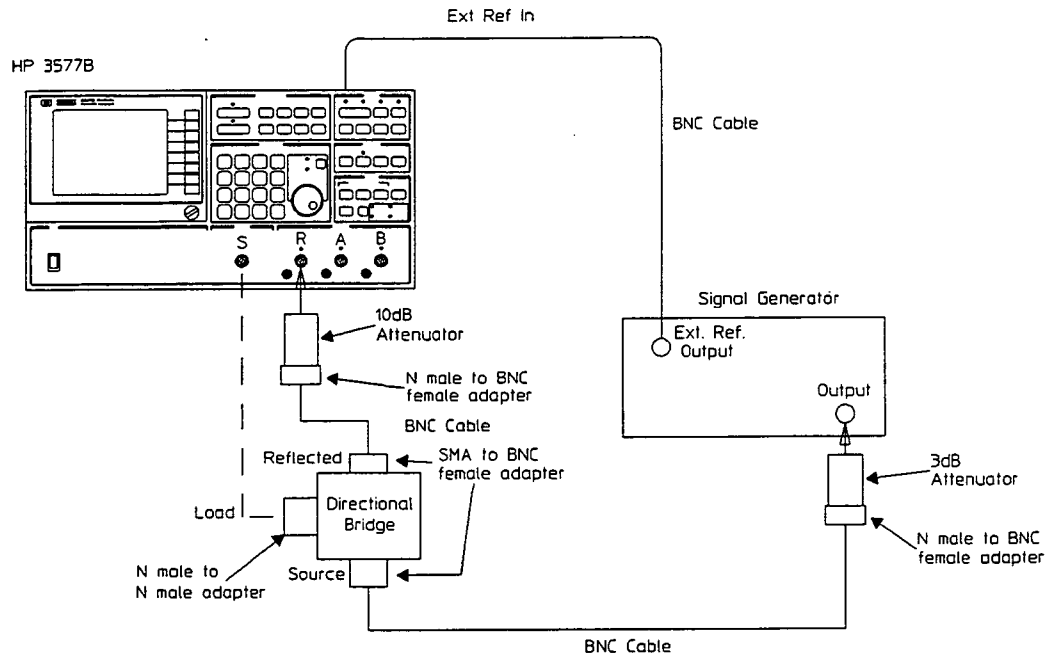

Figure 3-2. On Carrier Return Loss Test Set-Up
c. Connect the equipment as shown in figure 3-2 but do not connect the HP 3577B source to the directional bridge. (HP 3577B EXT REF LED should be on.)
- i. Connect the HP 3577B source to the directional bridge load port using an N-male to N-male adapter as shown in figure 3-2.